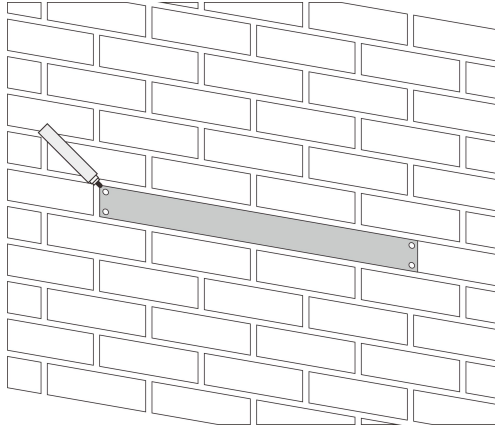

Figure 4-3
- b. Mark the location of the screw holes on the wall using positioning board, as shown in Figure 4-3.